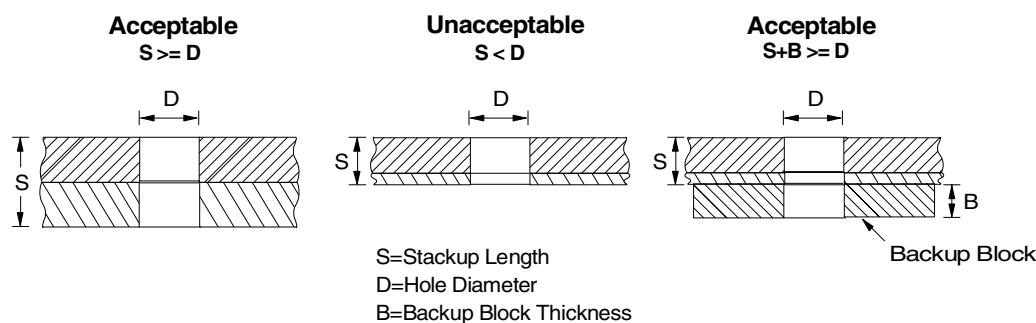

Figure 3-03 — Acceptable Stackup Thicknesses
- 3.7 **Backup Blocks** - Aluminum backup blocks are used to increase the stackup thickness, preventing material buckle in thin materials. These blocks are commonly required for the coldworking of thin material stackups and shall be used when material stackup is less than one hole diameter in thickness. They are not required to be of the same alloy or temper as the part. Backup blocks shall have a hole meeting the same dimensional and finish requirements as the workpiece start hole, and are discarded after use (blocks may be reused if reamed to the next start hole size). Ref. Fig. 3-03.